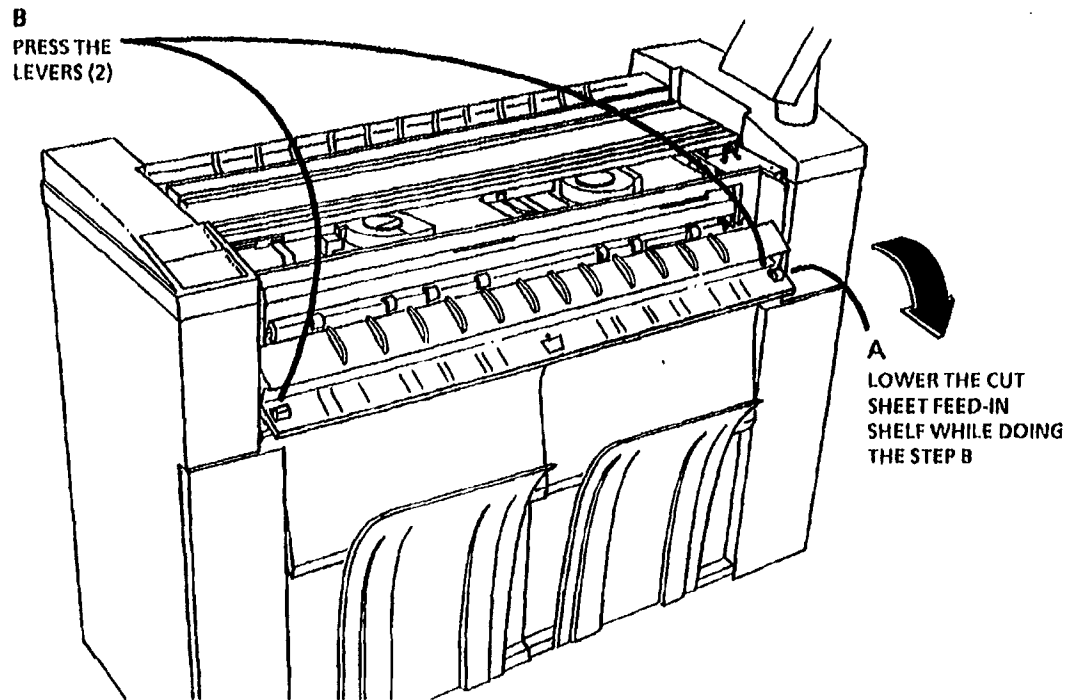

Figure 2. Lower the Cut Sheet Feed-in Shelf
6. (Figure 2): Lower the Cut Sheet Feed-in Shelf.